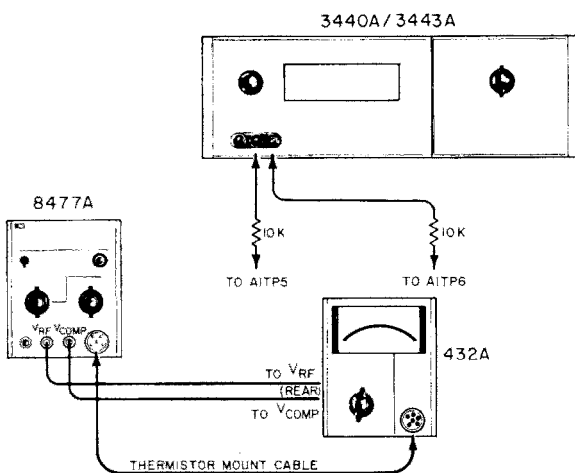

Figure 5-3. Bridge Amplifier Test
- a. Connect equipment as shown in Figure 5-3.